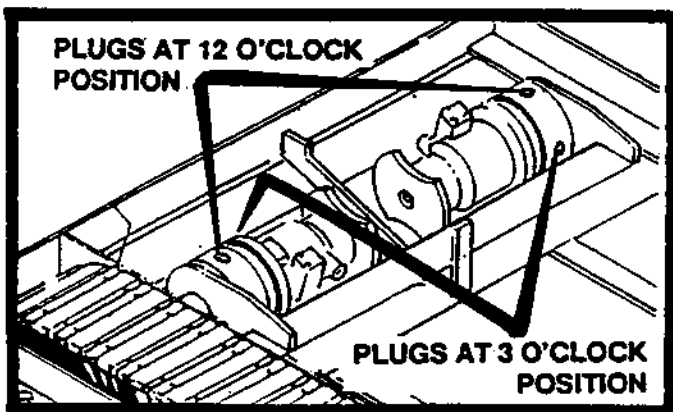

FIGURE 31
2. Check oil level in the torque hub by removing the plug at the 3 o'clock position. If oil comes out no oil is needed, insert plug and tighten. If oil does not come out, remove the plug at the 12 o'clock position and fill torque hub with 90 wt. gear oil until oil starts to appear at the other hole. Replace both plugs and repeat process to other torque hub. See figure 31.